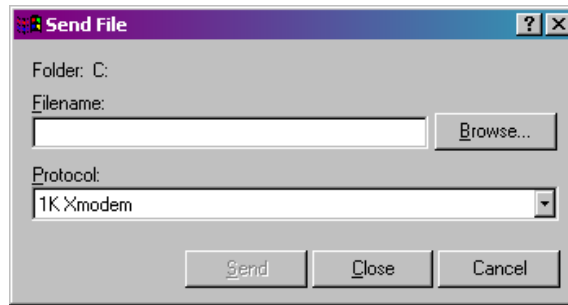
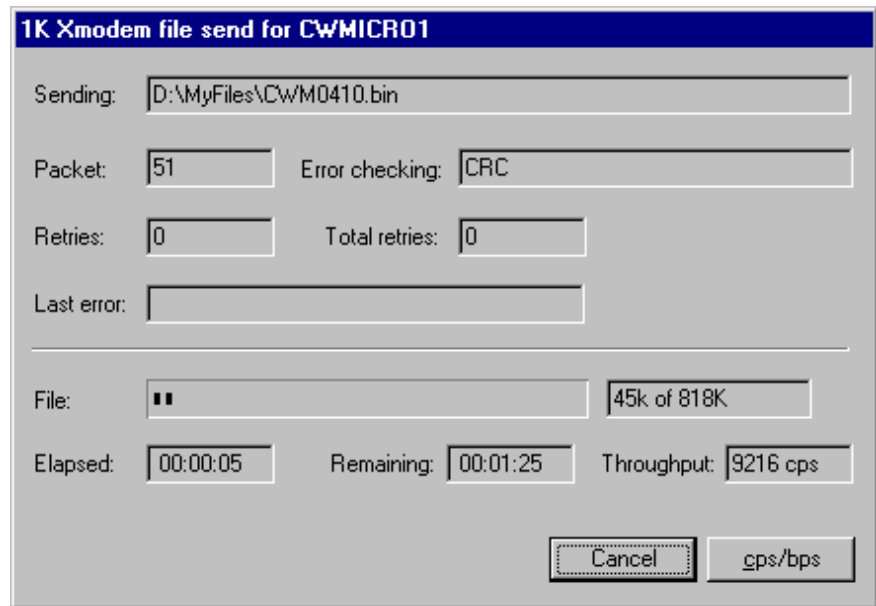

Figure 5-3. Send File dialog box
Figure 5-4. HyperTerminal (Download in Process)
8. In the Send File dialog box (see *Figure 5-3*), select **1KXmodem** for the protocol, enter the filename of the appropriate .bin file in the format "CWMxxxxx.bin" (where xxxxx varies from release to release) and click **Send** to start the flash upgrade (see *Figure 5-4*). When you see the HyperTerminal Mode Menu again, it means the download has completed.